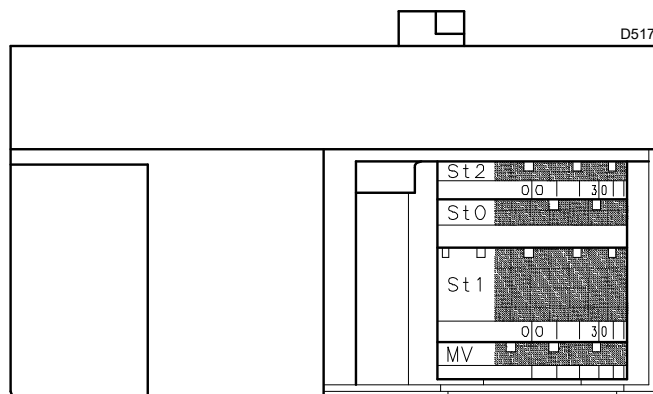

Fig. 30
- If it is necessary to reduce it, slightly decrease the angle of cam St1 (Fig. 30 on page 26) with small, regular movements, i.e. bring it from an angle of 15° to 13° - 11°...